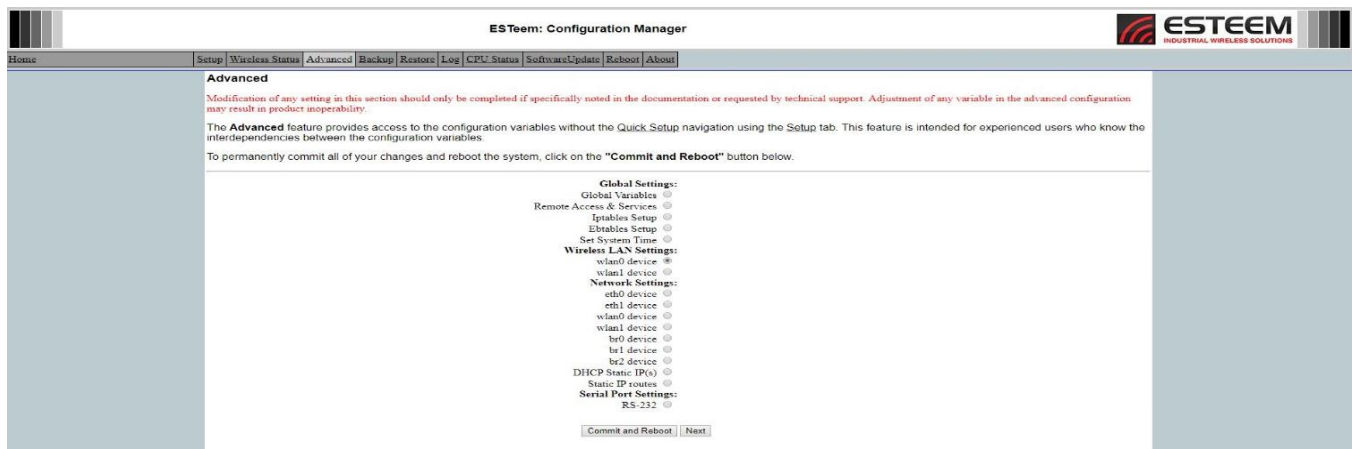

Figure 10: Advanced Screen
1. Access the ESTeem Web page using your computer's Web Browser. Select **Advanced** Tab. From the **Wireless LAN Setting** section, select **WLAN0 Device** (Figure 10) and push the "Next" button.